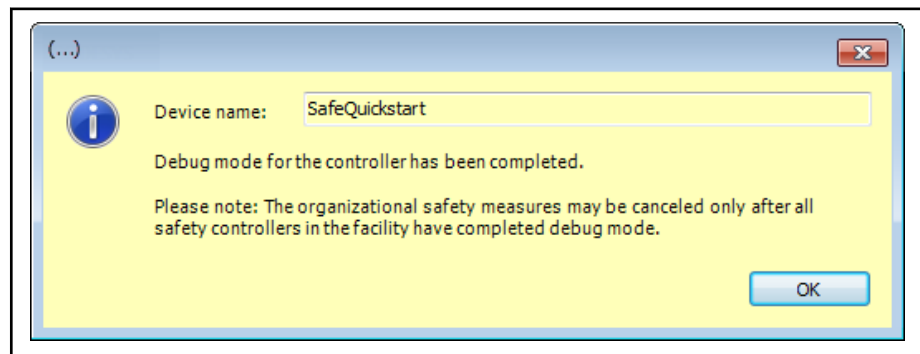

Fig. 8-6: Dialog for logout with loading the boot application
- You are logged into the application (see fig. 8-6 "Dialog for logout with loading the boot application" on page 122) and there is no boot application on the safety control: